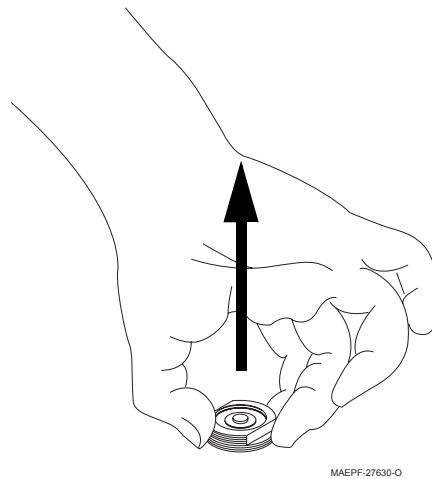

Figure 5. Pulling Upward on the Bushing Assembly
11. When the nut is well onto the bushing assembly, pull upward on the entire assembly as shown in Figure 5.